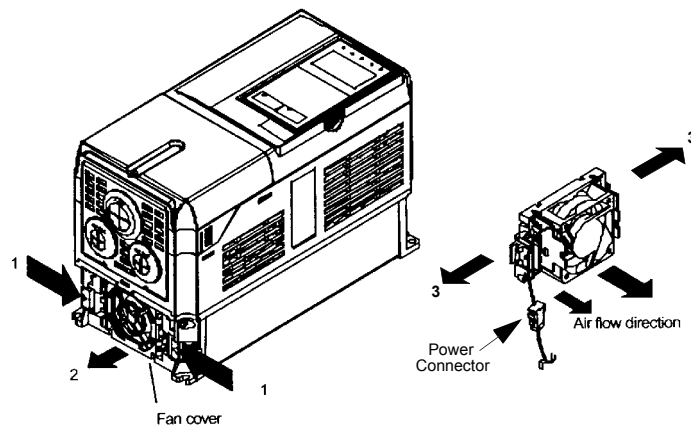

Fig 7.4 Cooling Fan Replacement Procedure
3. Pull out the cable connected to the fan from the fan cover and disconnect the power connector. See Figure 7.4.